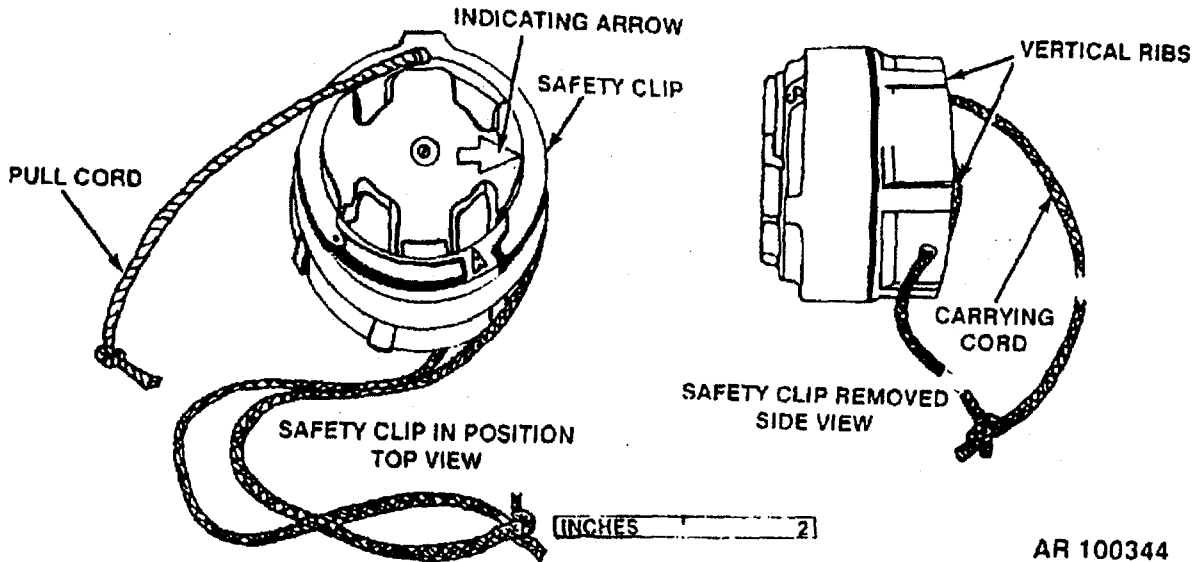

Figure 1-1. Mine, antipersonnel, nonmetallic (NM): M14, with integral fuze.
(1) This blast-type, high-explosive mine (fig. 1-1) has a cylindrical, all-plastic body. Six external body ribs provide strength and identify the mine the he dark. Pressure plate, slotted for insertion of steel U-shaped safety clip, has a yellow indicating arrow and is indented to accommodate mine and fuze wrench M22. Letters A and S on top of the fuze body signify Armed and Safe, respectively.
(2) A force of 20 to 35 pounds is needed to depress pressure plate which, in turn, depresses the belleville spring. The belleville spring snaps into reverse, driving firing pin into detonator M46; the detonator explodes main charge of 1 ounce of tetryl.